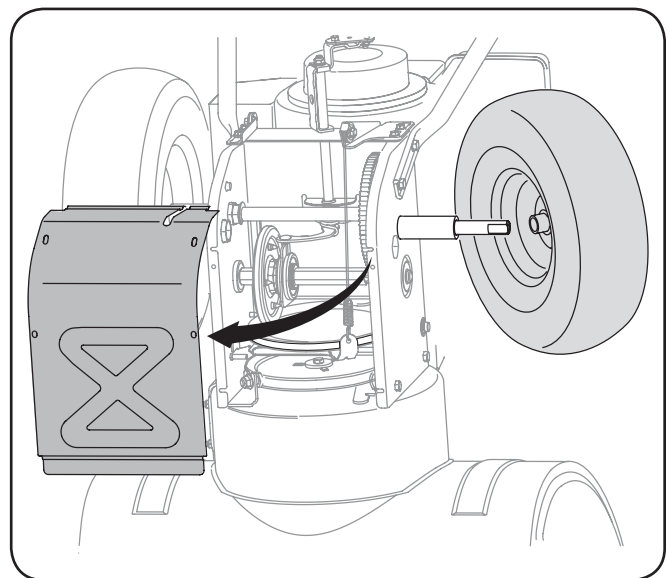

Figure 7-8
- Remove the frame cover from the underside of the snow thrower by removing four self-tapping screws which secure it. See Fig. 7-8.
- Remove the frame cover from the underside of the snow thrower by removing the self-tapping screws which secure it. Remove the right-hand wheel by removing the screw and bell washer which secure it to the axle. See Fig. 7-8.